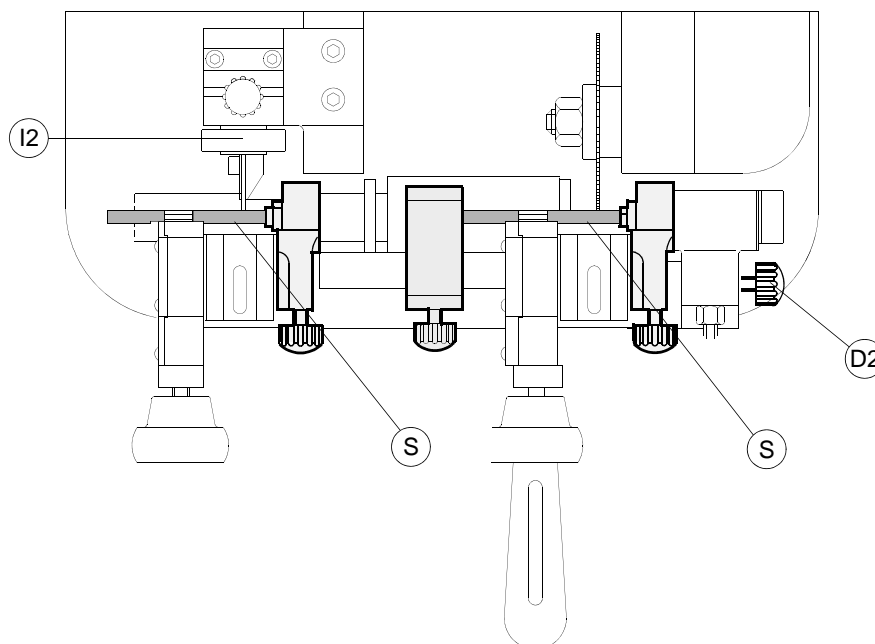

Fig. 13
- 2) Place the adjusting pins (S) (provided) on the clamps (fig. 13).
- 4) Raise the carriage and take the setting pins into contact with the tracer point and cutting tool (fig. 13).